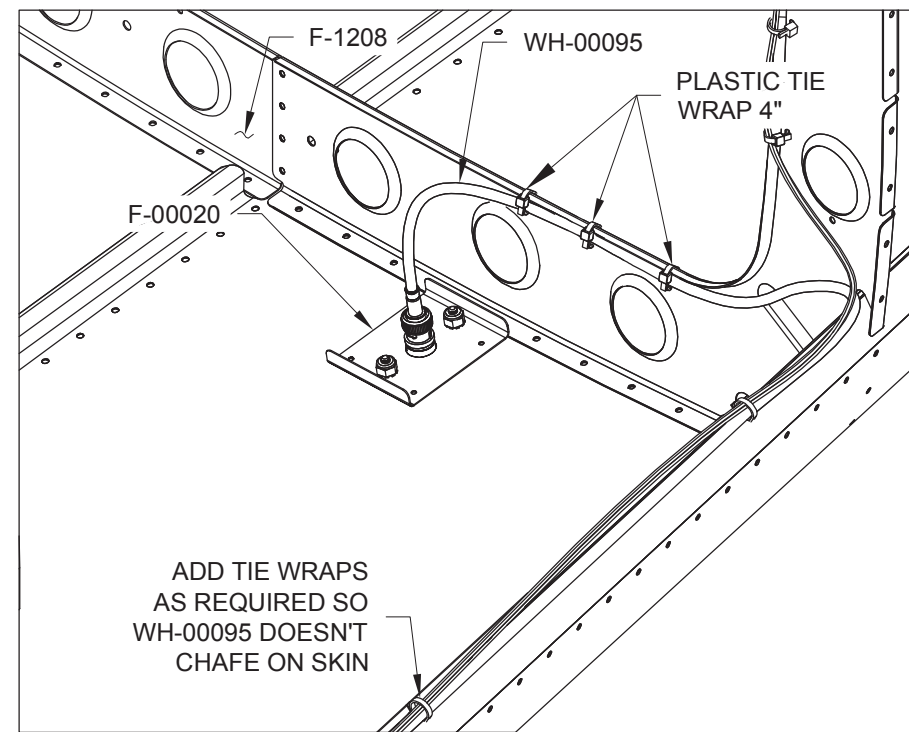

FIGURE 3: ROUTING THE ANTENNA CABLE
Step 4: Connect the WH-00095 ADS-B Antenna Cable to the AV-00006 Blade ADS-B Antenna as shown in Figure 3.
Tie-wrap the cable to the F-1208 Fuselage Frame as shown in Figure 3.